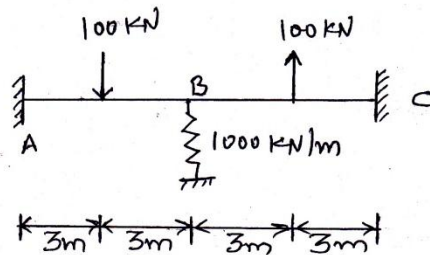

Figure 1
- Q.1** (a) For a continuous beam shown in Figure 1, obtain rearranged joint stiffness matrix. **07**
- (b) Calculate support reactions and the free joint displacements for the above beam as shown in Figure 1. **07**
- Q.5** (a) Obtain load vector for a beam shown in Figure 1 if (a) the temperature of member AB is increased such that bottom and top fibers are at 10^0 C and 20^0 C , **07**